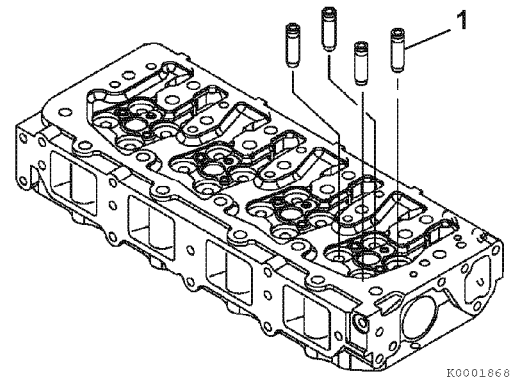

Figure 6-50
1. Using a drift pin and hammer, drive the valve guides (1, **Figure 6-50**) out of the cylinder head.